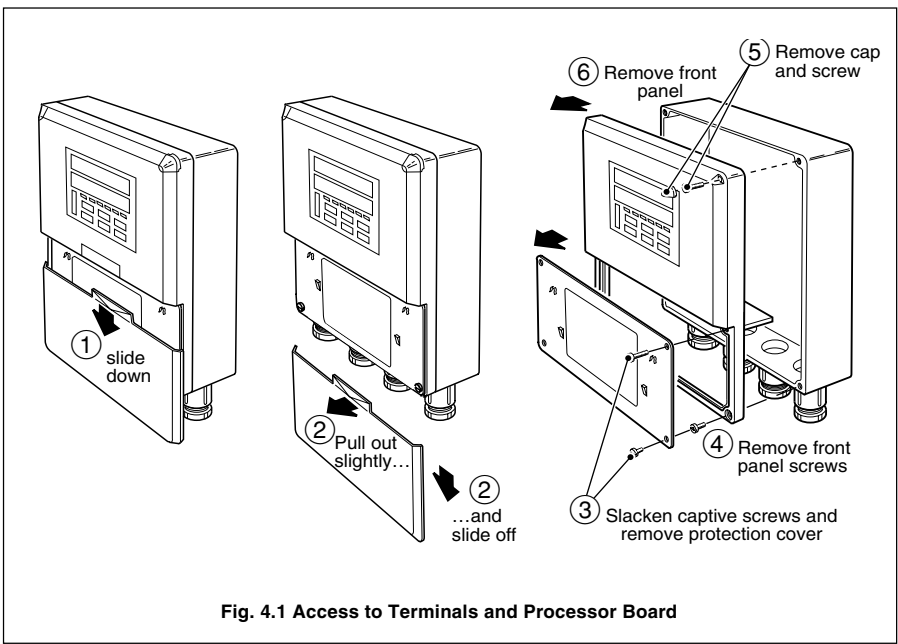

Fig. 4.1 Access to Terminals and Processor Board
4.1 Access to Terminals – Fig. 4.1
For access to terminals – refer to Fig. 4.1, steps ① to ③.
Remove the instrument front panel – see Fig. 4.1, steps ① to ⑥.